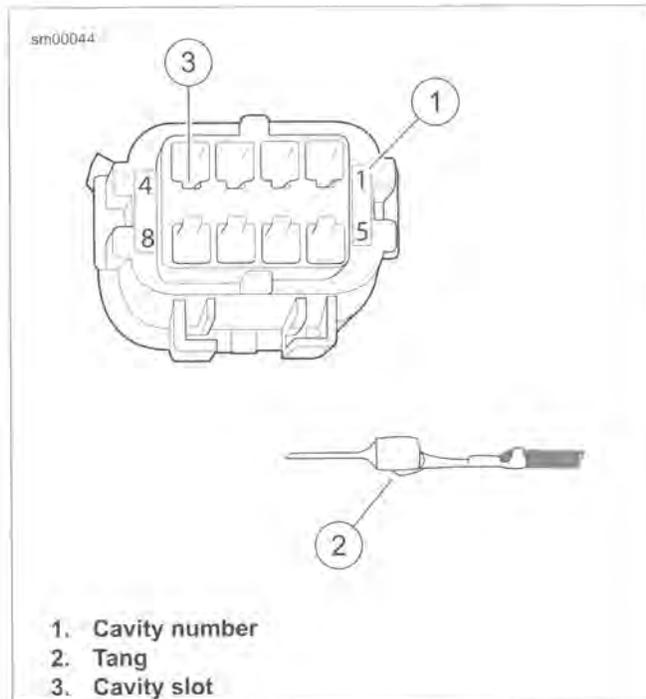

Figure A-51. Molex MX 150 Sealed Connector: Pin Cavities and Wire Terminal
1. See Figure A-51. From the wiring diagram, match the wire color to its numbered terminal cavity.